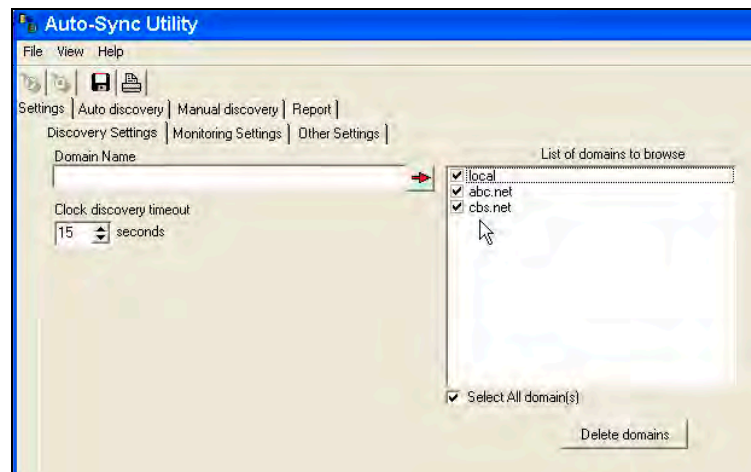

Figure 5-14. View Utility Settings – Discovery Settings.
- **Settings** – Use this function to enter discovery settings for Domain name to allow discovery in multiple domains. Also, set clock discovery timeout of Auto-Sync Utility function. Domains can be deleted from the list to browse (see *Figure 5-14*).
*NOTE:* Each domain will be searched for the amount of time set in the “Clock discovery timeout” field before searching the next domain in the “List of domains to browse” list on the right (see *Figure 5-14* for an example).